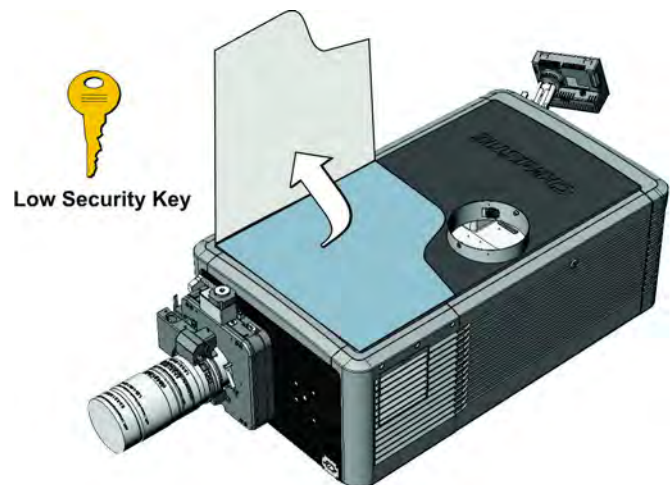

Figure 5-2 Front Top Lid
1. Unlock front top lid using the low security key provided. (**Figure 5-2**)